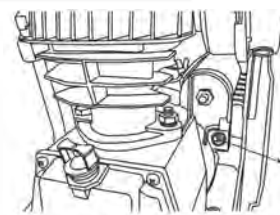

FIGURE 6
MOTOR THERMAL OVERLOAD PROTECTOR (RESET (J) FIG. 6).